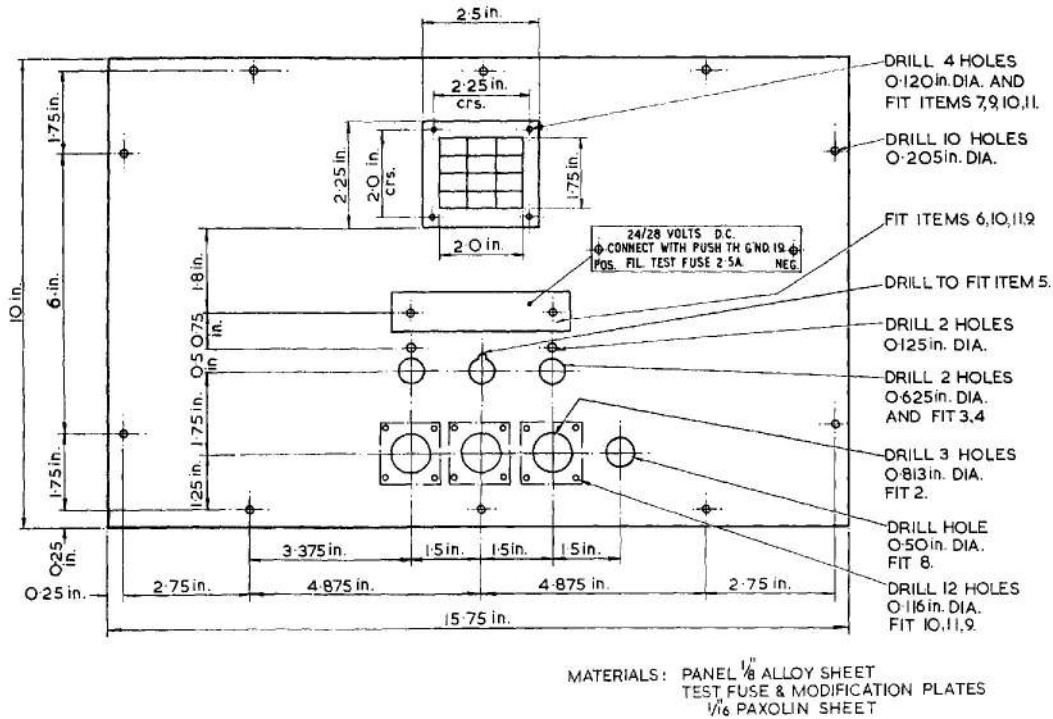

Fig. 4. Rear panel—layout
7. Refer to Fig. 4 for the construction details of the rear panel assembly and Table 3 for components. Proceed as follows:—